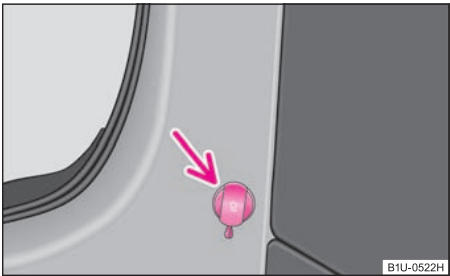

Fig. 92 Luggage compartment: Power socket
- Open the cover of the power socket ⇒ fig. 92.